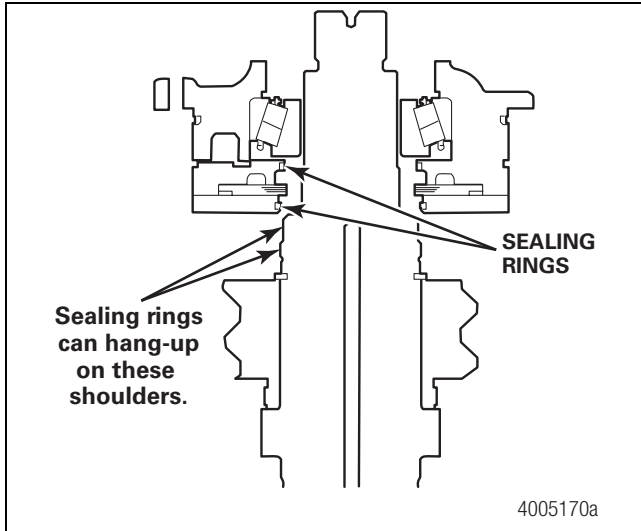

Figure 14
- Lubricate the sealing rings on the inside diameter of the pump and the shaft journal adjacent to the pump splines. Figure 14.